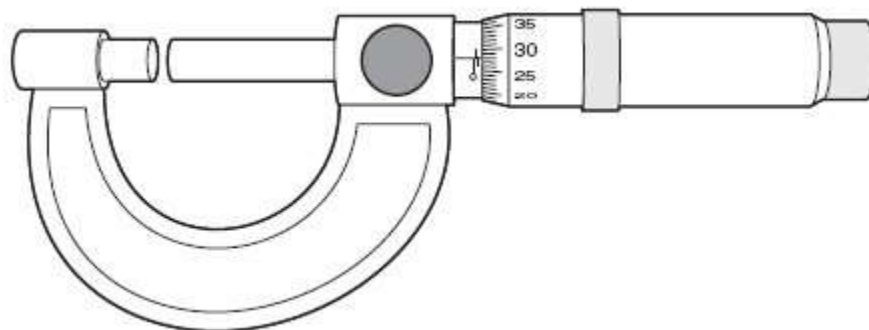

Fig. 3.1
5. Fig. 3.1 shows a micrometer screw gauge.